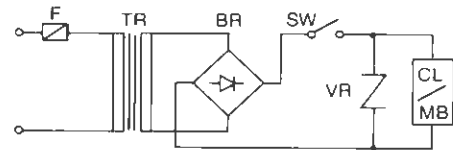

Figure 1.
- The coil may be controlled by a simple on/off switch (figure 1.)